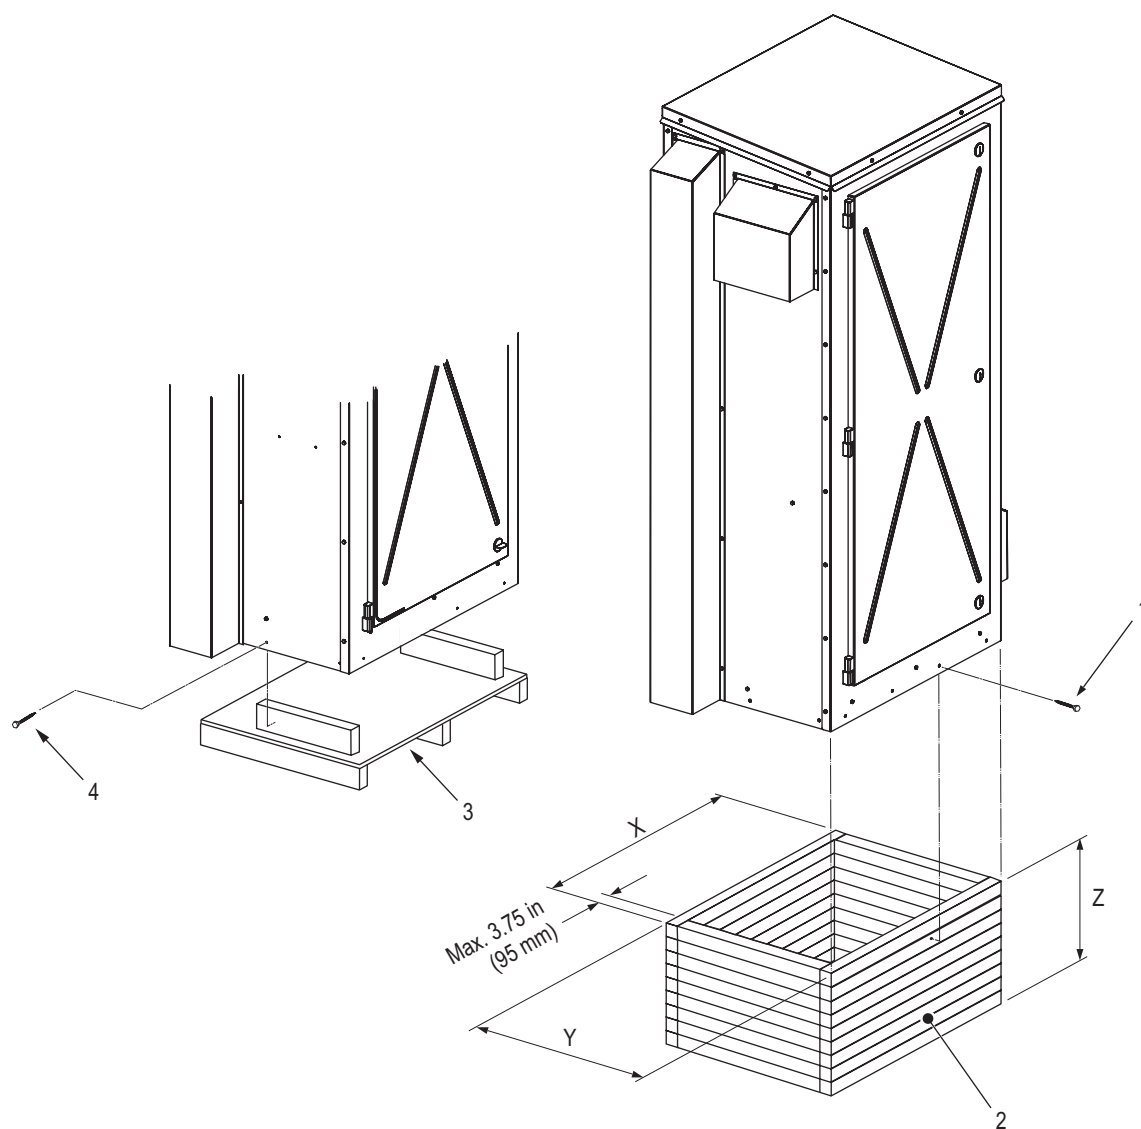

Figure 11: Rooftop Curb Mounting
3. Construct the curb to the dimension shown in Figure 11 on page 27 and Table 6. Make sure that the curb is capable of supporting the full operating weight of the unit – refer to Table 9 on page 57.